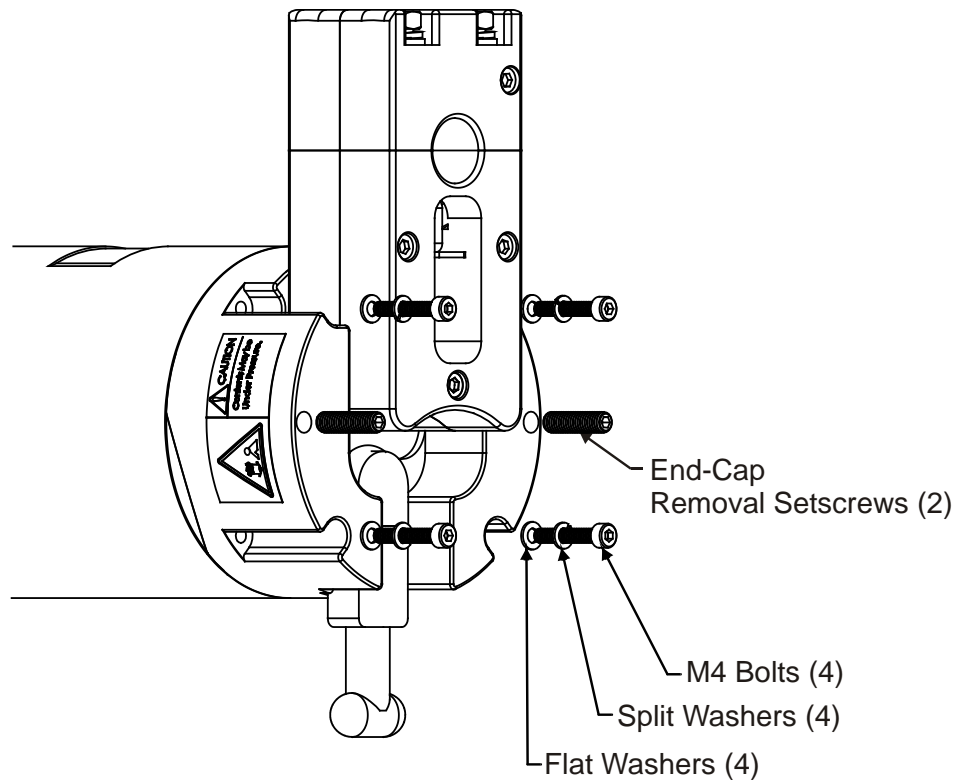
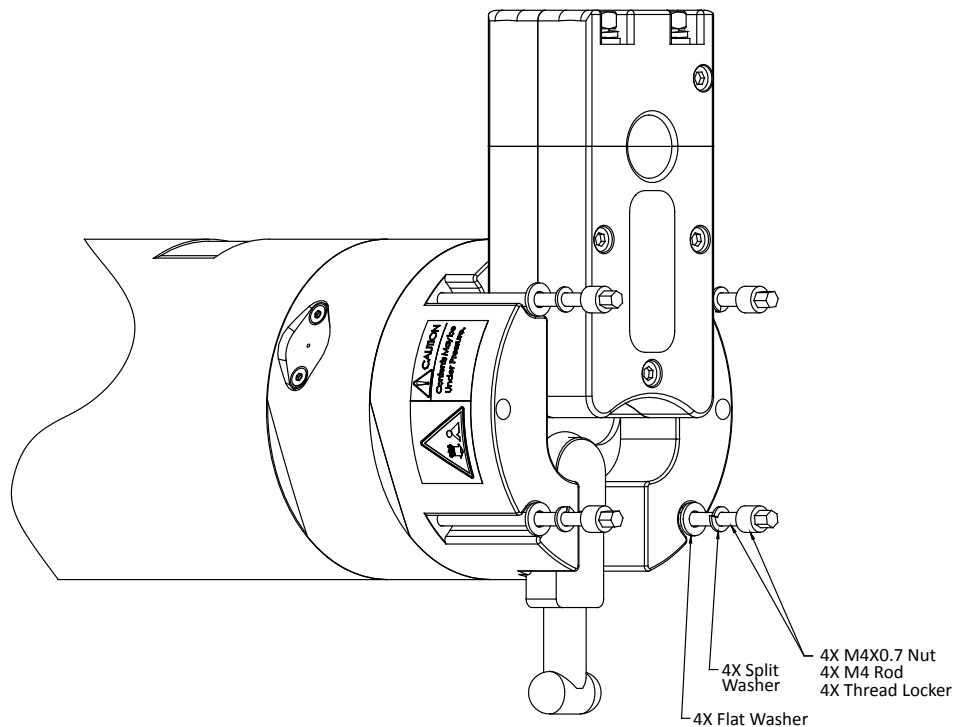

Figure 23. End Cap Mounting Hardware (Standard 750 Meter System)
Figure 24. End Cap Mounting Hardware (with Pressure Sensor)
4. Loosen the four M4 retaining bolts or M4 threaded rods with M4 nut holding the end cap sufficiently to allow pressure relief (see Figure 23 and Figure 24). **Allow the system the opportunity to vent while the bolts are being loosened.** If you note that the end cap moves as you loosen the bolts then this may indicate that internal pressure is present. Be sure to only loosen the bolts far enough to allow the system to vent.
5. Begin threading both the End Cap Removal M6 setscrews in as shown in Figure 23 to back the end cap out of the housing.
9. Examine the end-cap assembly nuts, bolts or threaded rods, and washers for corrosion; replace if necessary. Figure 23 and Figure 24 shows the assembly order of the end-cap mounting hardware. All the hardware items are needed to seal the DVS properly.